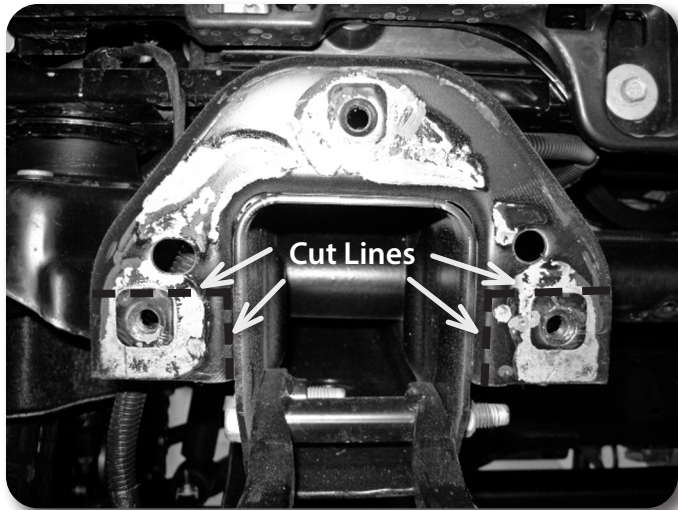
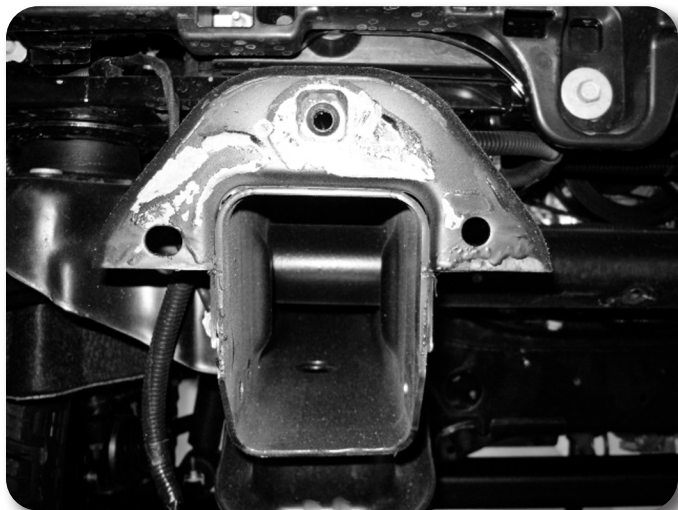

Figure 13
Figure 14
25. It is necessary to cut the front bumper frame mounts to provide clearance for the bumper in its raised position. Make a cut line even with the top of the lower weld nuts as shown in **Figure 13**. Using a suitable cut off tool, cut at the mark and down flush with the side of the frame **Figure 14**.